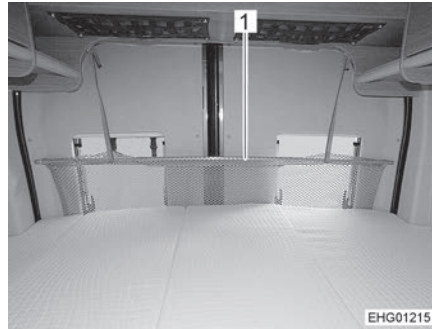

Fig. 50 Fall out protection (longitudinal rear bed)
- ▷ The windows of the rear doors are equipped with a fall out protection (Fig. 50,1).